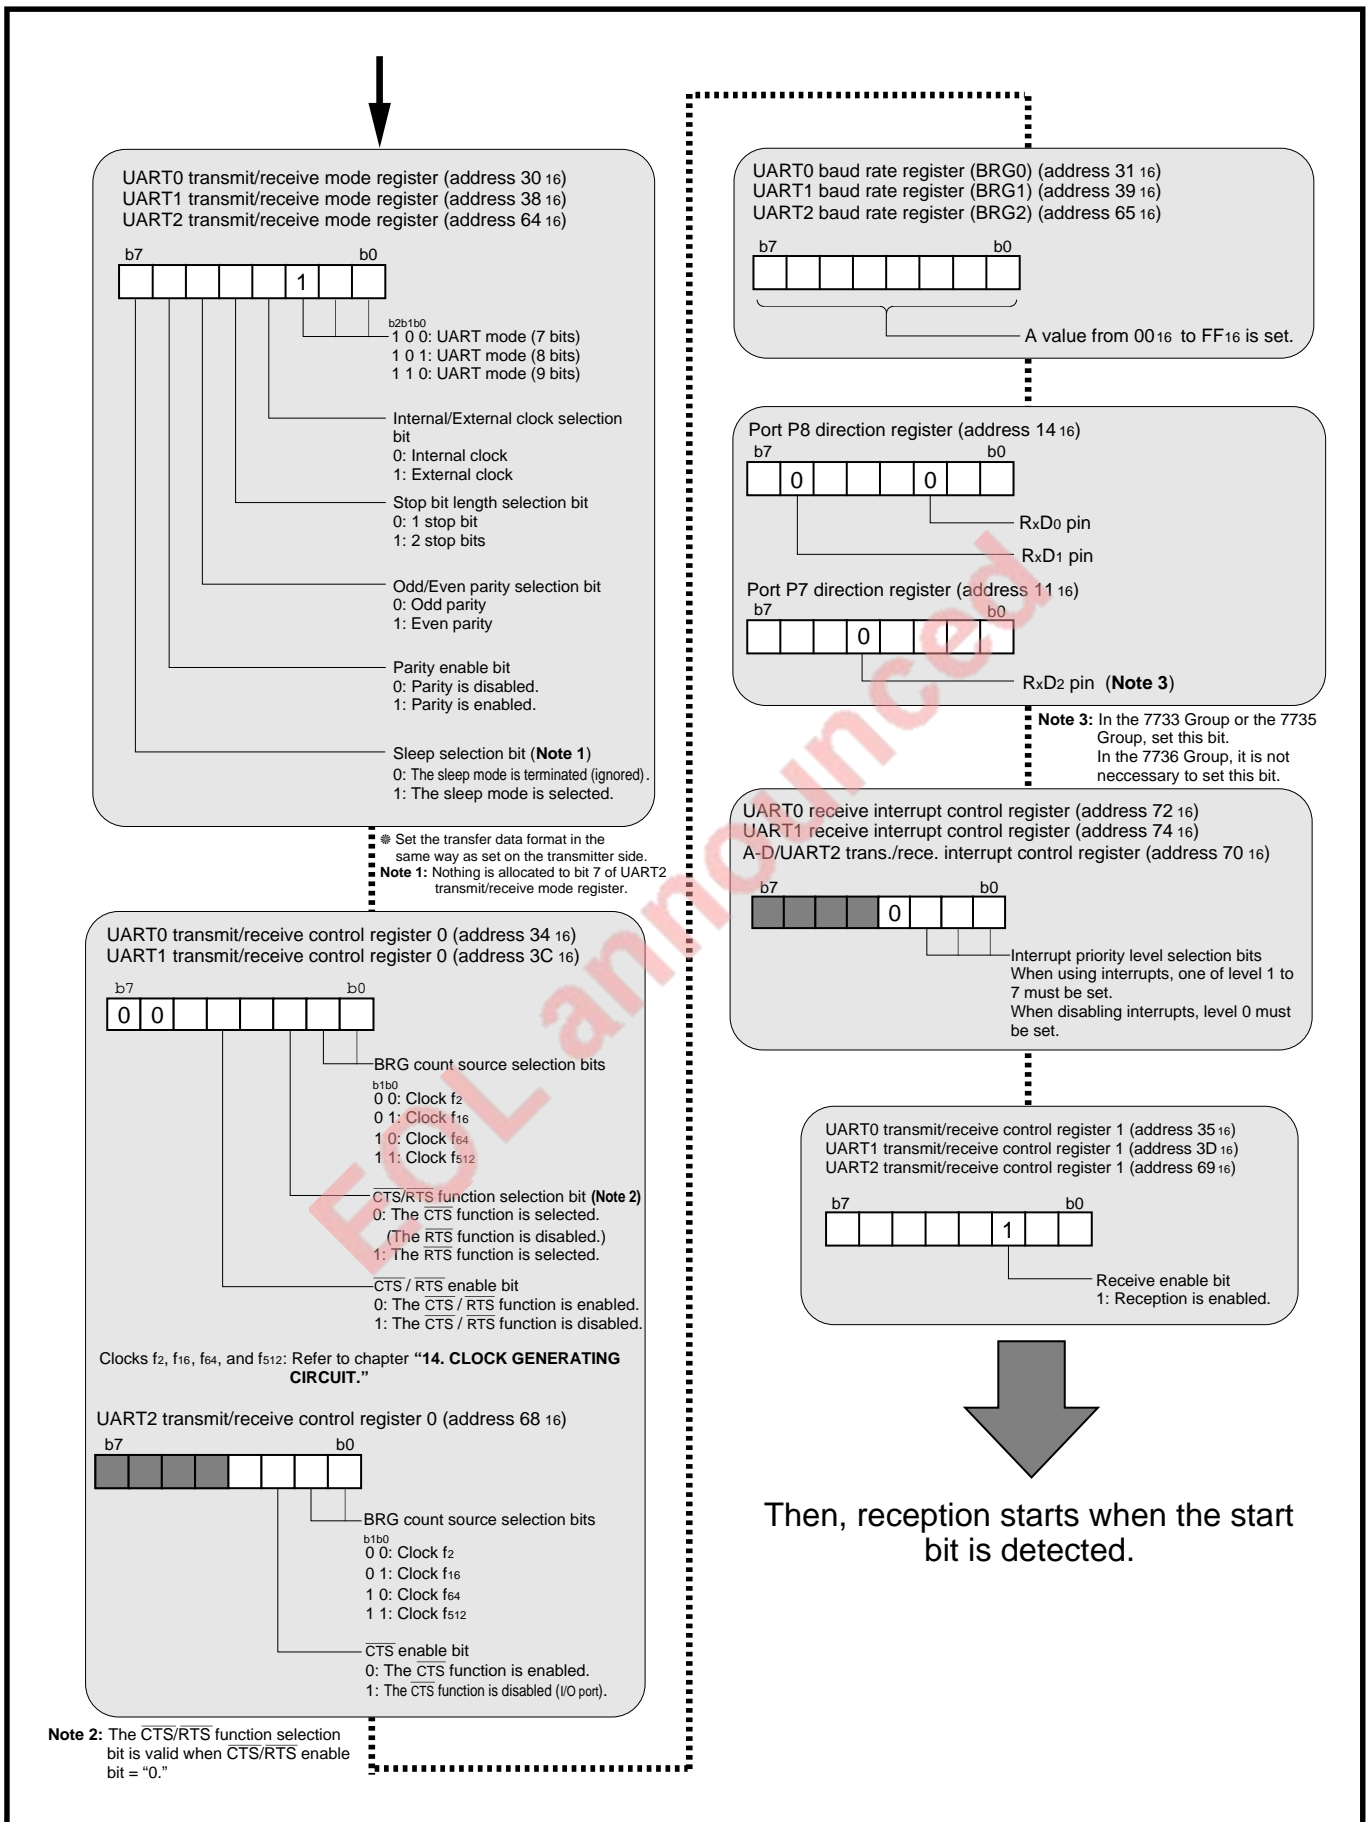

Fig. 8.4.9 Initial setting example for related registers when receiving
Figure 8.4.9 shows an initial setting example for related registers when receiving. Reception is started when the following conditions (① and ②) are satisfied.
- ① Receive enable state (receive enable bit = "1").
- ② The start bit is detected.